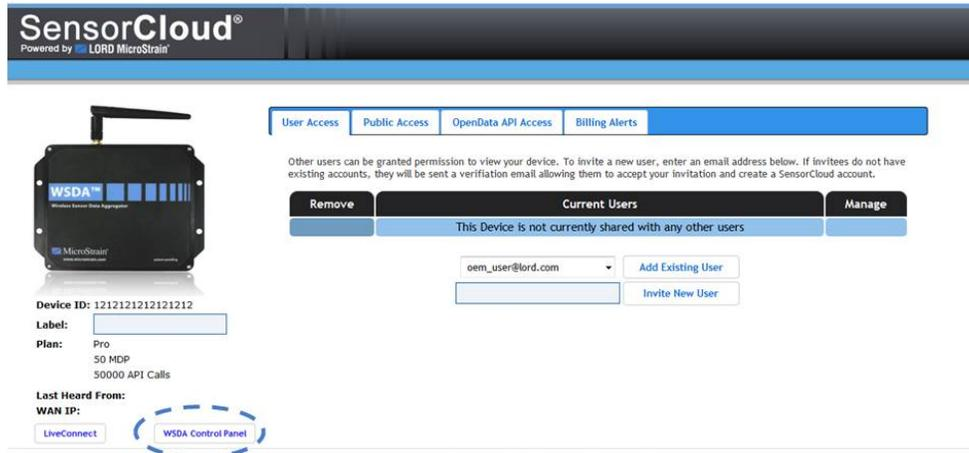

Figure 48 - Device Control Panel Access
2. Select the Control Panel button (Figure 48 - Device Control Panel Access). If it is not present, the SensorCloud™ account does not include the feature and must be upgraded.